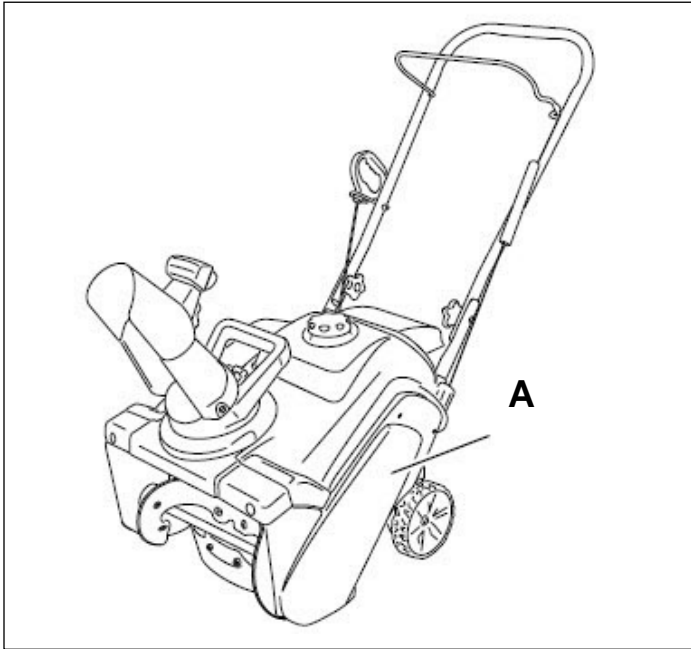

Fig. 005
1. Remove the 4 bolts that hold the drive belt cover (Fig. 005) in place.